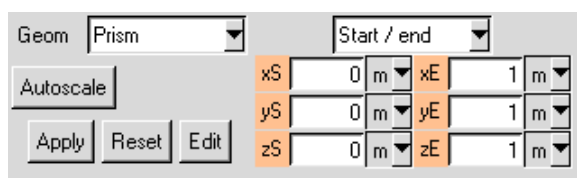
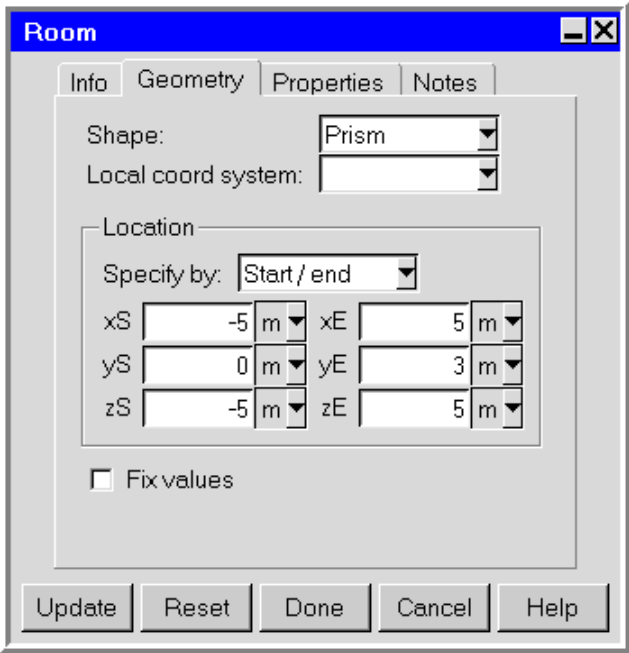

Figure 7.2.1: The Room Edit Window
Figure 7.2.3: The Room Panel (Geometry Tab)
The **Edit** window in the lower right corner of the screen will become the room **Edit** window (Figure 7.2.1).
- Specify the dimensions of the room in the room **Edit** window (Figure 7.2.1). You can specify the starting and ending points of the room by selecting **Start/end** in the drop-down list at the top of the window and entering the starting point of the room (x_S , y_S , z_S) and the ending point of the room (x_E , y_E , z_E). After you type a number into a text entry field (or type numbers in several fields), you must click **Apply** or press the <Enter> key on the keyboard to update the model and display the updated model in the graphics window. If you do not click **Accept** or press the <Enter> key, **Airpak** will not update the model.
- In the object **Edit** window (Figure 7.2.1), click on the coordinate (displayed in orange) that you want to change. Click the left mouse button on a point in the graphics window that is inside the boundary of the current room. The room will be contracted in the chosen coordinate direction. For example, if you click on y_E (value = 1.0 m) and then click on a point in the graphics window with $y=0.7$ m, then the room height will be contracted such that y_E is now 0.7 m. The x and z coordinates will remain constant.
- Click on **Autoscale** in the room **Edit** window (Figure 7.2.1) to resize the room so that it is exactly the size required to fit all the objects in the model. This option can be used at any stage during the model-building process.
- Select or specify a local coordinate system for the room in the **Room** panel (Figure 7.2.3).
- You can reposition the room along the x , y , and z axes by selecting **Start/end** in the drop-down list in the room **Edit** window (Figure 7.2.1) or in the **Specify by** drop-down list in the **Room** panel (Figure 7.2.3) and modifying the starting point (x_S , y_S , z_S) and ending point (x_E , y_E , z_E) of the room. Alternatively, you can modify the starting point (x_S , y_S , z_S) and the lengths of the sides (x_L , y_L , and z_L) of the room if you select **Start/length** in the **Specify by** drop-down list in the **Room** panel or in the drop-down list in the room **Edit** window.